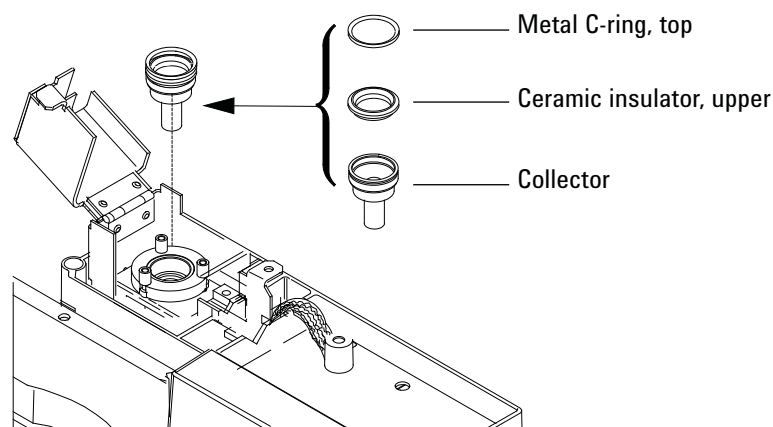

Figure 7 NPD collector, upper insulator, and metal C-ring
- 18** Install the bottom metal C-ring, the lower ceramic insulator, and the top metal C-ring. See Figure 7.